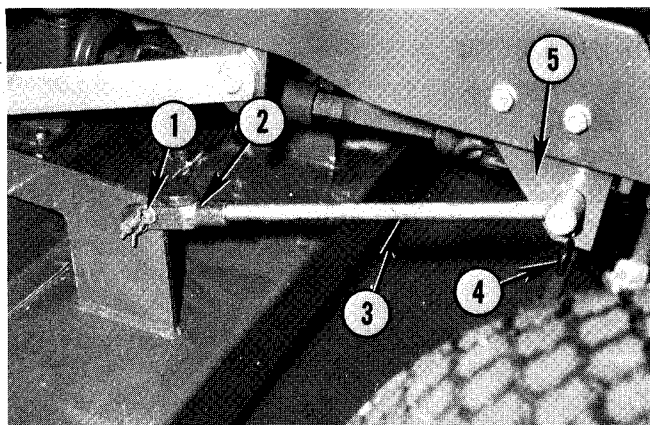

Fig. 53 — Mower Installation
6. Attach yoke end of front lift links to mower and then rotate lift link until the correct length fits snugly into front anchor plate, Fig. 53.